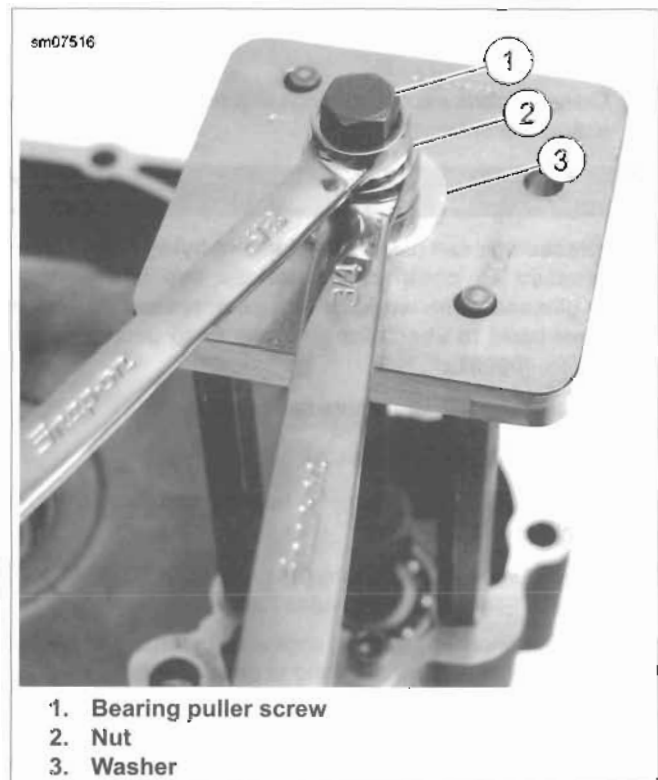

Figure 3-152. Removing Bearing
- See Figure 3-152. Place washer (3) onto puller plate.
- Insert BEARING PULLER SCREW (Part No. HD-48457-6) through washer (3) and puller plate.
- While holding bearing puller screw (1), rotate nut (2) until bearing separates from crankcase.